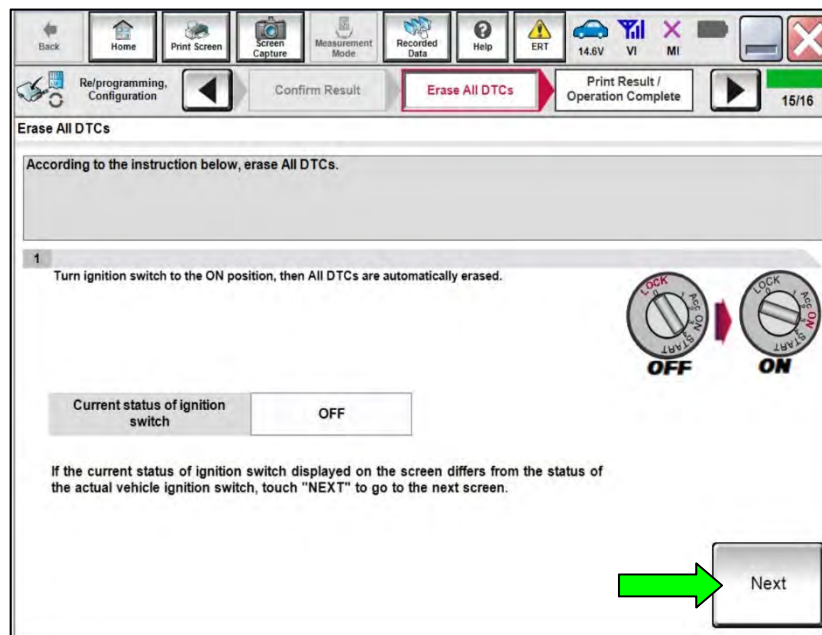

Figure 19
28. Press the power switch two (2) times to turn the ignition back ON (Figure 19).